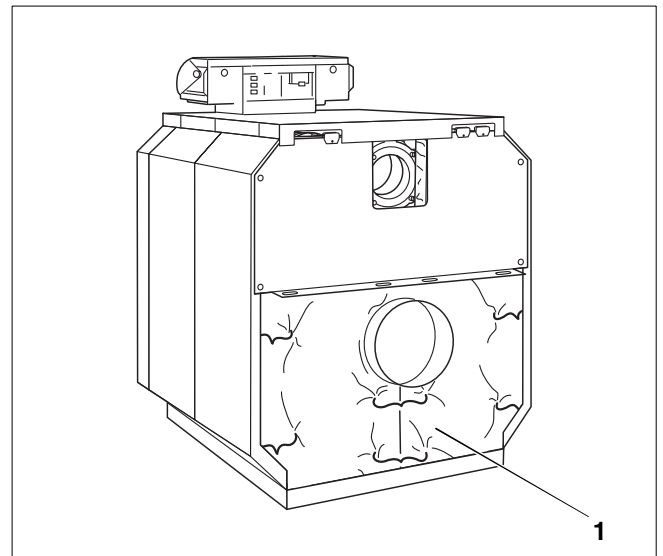

Fig. 70 Fastening together the rear-section thermal insulation
- Fold down the flaps of the rear-section thermal insulation and fasten them together under the flue connection with the spring clips (Fig. 70, **ref. 1**).